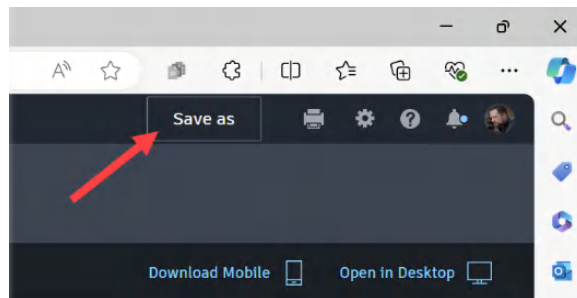

Figure 13.5: The Save as button in AutoCAD Web
1. Click on the **Save as** button in the top-right corner of the AutoCAD Web screen, as shown in *Figure 13.5*.